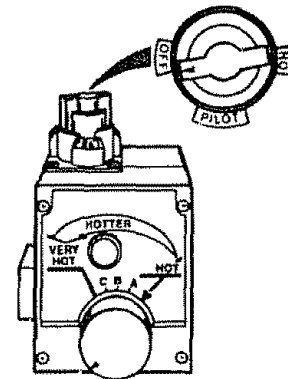
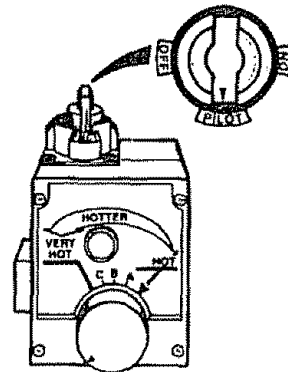
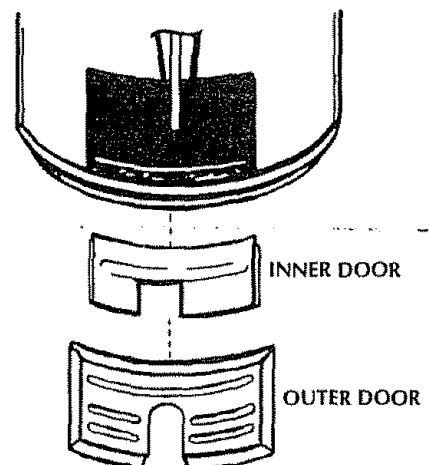

Figure 6
Figure 7
Figure 9
4. Turn gas control knob clockwise () to "OFF" position. Knob cannot be turned from "PILOT" to "OFF" unless knob is depressed slightly. **DO NOT FORCE.** (Figure 6, page 15)
5. Wait five (5) minutes to clear out any gas. If you then smell gas, STOP! Follow "B" in the safety information above on this label. If you don't smell gas, go to the next step.
6. Remove (or open) inner door located below the gas control unit. (Figure 9, page 15)
8. If you don't smell gas, turn knob on gas control counter clockwise () to "PILOT" position. (Figure 7, page 15)
9. Push in control knob all the way and hold down. Immediately light the pilot with a match. Continue to hold control knob in for about one (1) minute after the pilot is lit. Release knob and it will pop back up. Pilot should remain lit. If it goes out, repeat steps 3 through 8.
- If the pilot will not stay lit after several tries, depress and turn the gas control knob clockwise () to "OFF" and call your service technician or gas supplier. (Figure 6, page 15)
10. Replace (or close) inner door. Replace outer door if door does not cover gas control on/off knob or temperature adjustment knob. (Figure 9, page 15)
2. Turn gas control knob clockwise () to "OFF" position. Knob cannot be turned from "PILOT" to "OFF" unless knob is depressed slightly. **DO NOT FORCE.** (Figure 6, page 15)